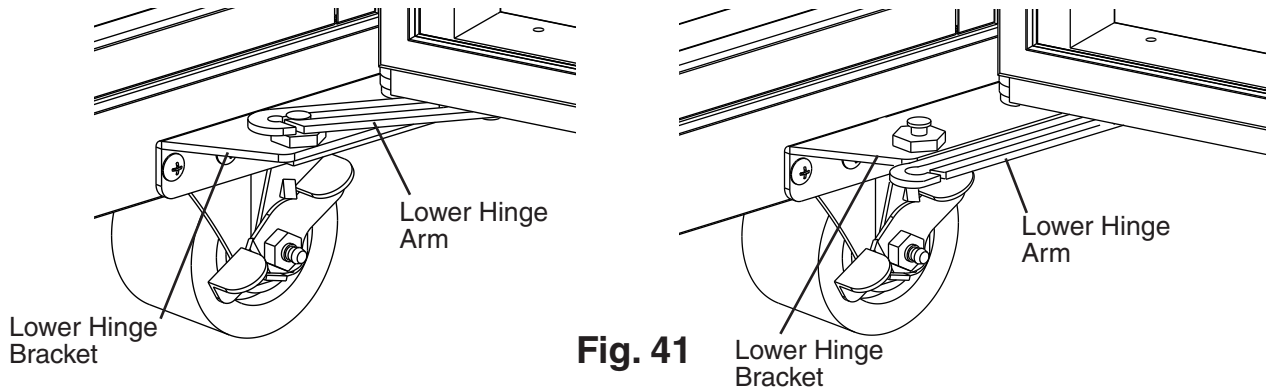

**Fig. 39**
- 4) Turn wrench B counter-clockwise to relieve tension on the tension rod. Without releasing the pressure on wrench B and the tension rod, use wrench A to tighten the lock nut. See Fig. 39.